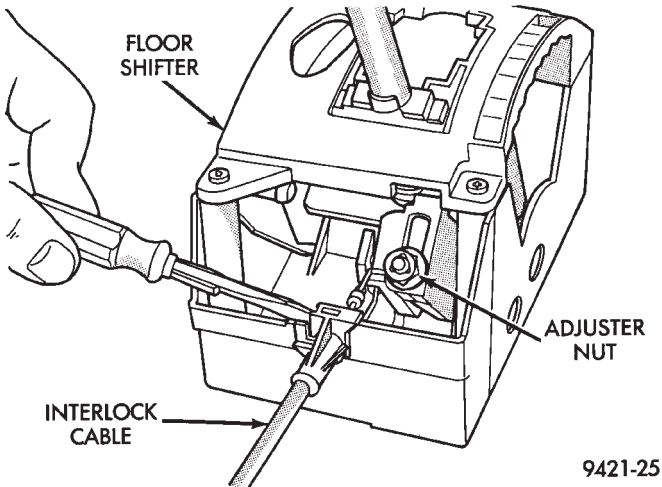

Fig. 31 Interlock Cable Removal
(4) Disconnect interlock cable from shifter base slot. Be careful not to break tab on interlock cable conduit end fitting (Fig. 31).